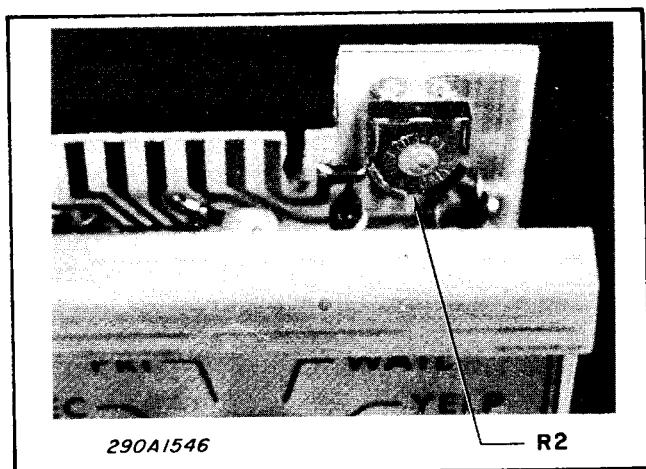

Figure 3-3. R2 Location.
5. See figure 3-3. Remove the chassis from the housing. Use a small screw driver to adjust R2 so that the sound level of the radio audio is approximately equal to that of the PA audio. R2 is accessible from the rear of the board.
6. See figure 3-3. Use a small screwdriver to adjust R2 so that the sound level of the radio audio is approximately equal to that of the PA audio.
8. See figure 3-3. Using a very small screwdriver, adjust R2 on the circuit board for the desired listening level outside the vehicle. R2 is accessible through a hole in the circuit board.